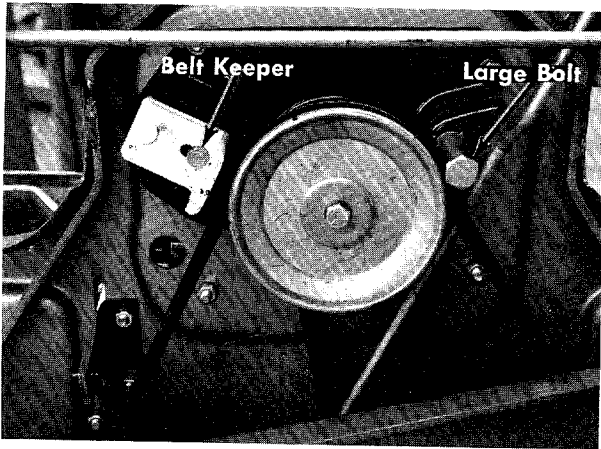

FIGURE 23. BELT KEEPER
Step 2. Remove the belt keeper and large bolt on the engine pulley. See figure 23.
- Step 2. Remove the belt keeper and large bolt on the engine pulley. See figure 23.